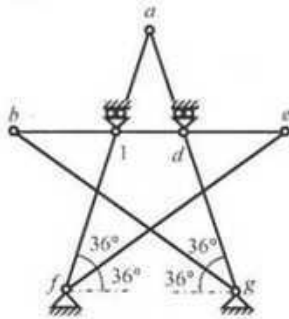

Fig. 6
6. Use Flexibility Method to calculate the forces in all members of the truss  $abcdefg$  shown in Fig. 6, if support  $d$  settles 0.03-m downward [Given:  $EA/L = \text{constant} = 5000 \text{ kN/m}$ ].